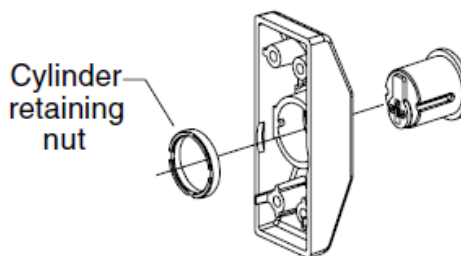

Figure 11-2
- 11.3. Install cylinder into cylinder housing (Figure 11-2). **Tighten cylinder retaining nut securely.** Make sure end of cylinder housing marked "TOP" is up.